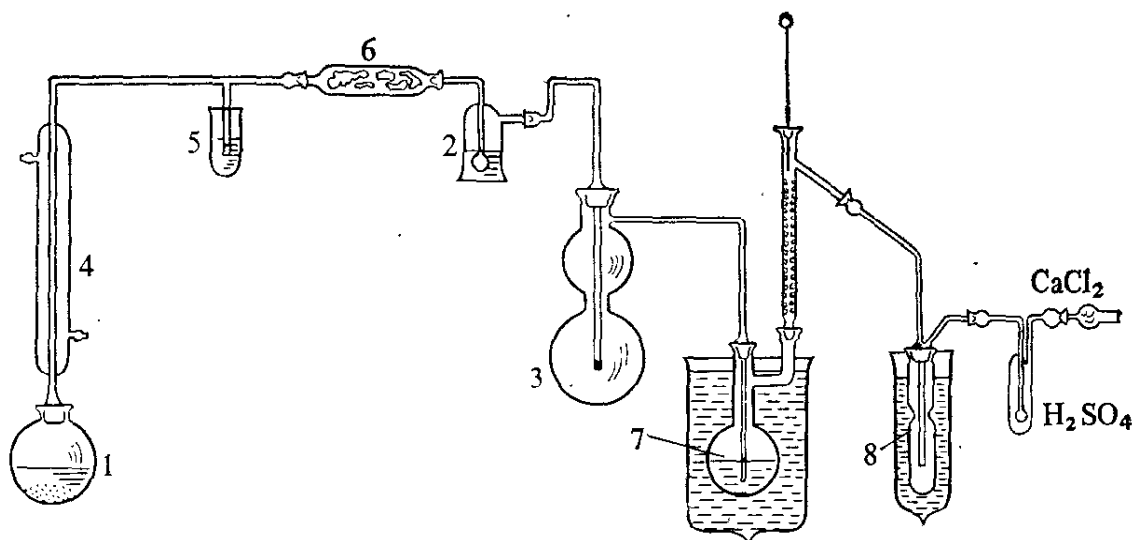

Fig. 112. Apparatus for preparing boron trichloride
1. Preparation of Boron Trichloride by Reacting Aluminium Trichloride with Boron Trifluoride. (*Perform the experiment in a fume cupboard!*) Assemble an apparatus as shown in Fig. 112.
Thoroughly dry all the parts of the apparatus. Put 80 g of sodium tetrafluoborate and 14 g of boric acid anhydride into 250-ml round-bottomed flask 1; pour in a mixture of 60 ml of concentrated sulphuric acid and 20 ml of 20 % oleum ($d^{20} = 1.90$). Pour concentrated sulphuric acid saturated with boric acid anhydride into wash bottle 2, fill tube 6 with phosphoric anhydride applied onto glass wool, and pour glycerin into vessel 5 for functioning as a seal if the pressure in the apparatus rises. Spill 40 g of anhydrous aluminium trichloride into reaction vessel 3 through a funnel reaching the middle of the lower flask. Cool receiver 7 with a mixture of dry ice and ethanol and make sure that the receiver is completely submerged in the cooling mixture (see Fig. 112).
2. Preparation of Boron Tribromide. (*Perform the experiment in a fume cupboard!*) Assemble a part of the apparatus shown in Fig. 112 beginning from vessel 3 without a gas-discharge tube. Put 54 g of aluminium tribromide and 13 g of potassium tetrafluoborate into reaction vessel 3 and close it. Carefully heat the vessel with the flame of a burner. Prepare and purify the boron tribromide in the same way as boron trichloride.